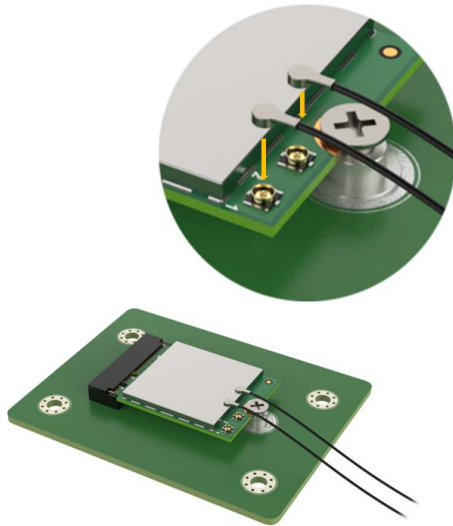

Figure 3-9: Securing WLAN Module and Connecting RF Cables
Step 6: Secure the WLAN module. Secure the WLAN module with the retention screw previously removed (Figure 3-9).
Step 7: Connect the two RF cables to the antenna connectors on the WLAN module (Figure 3-9).